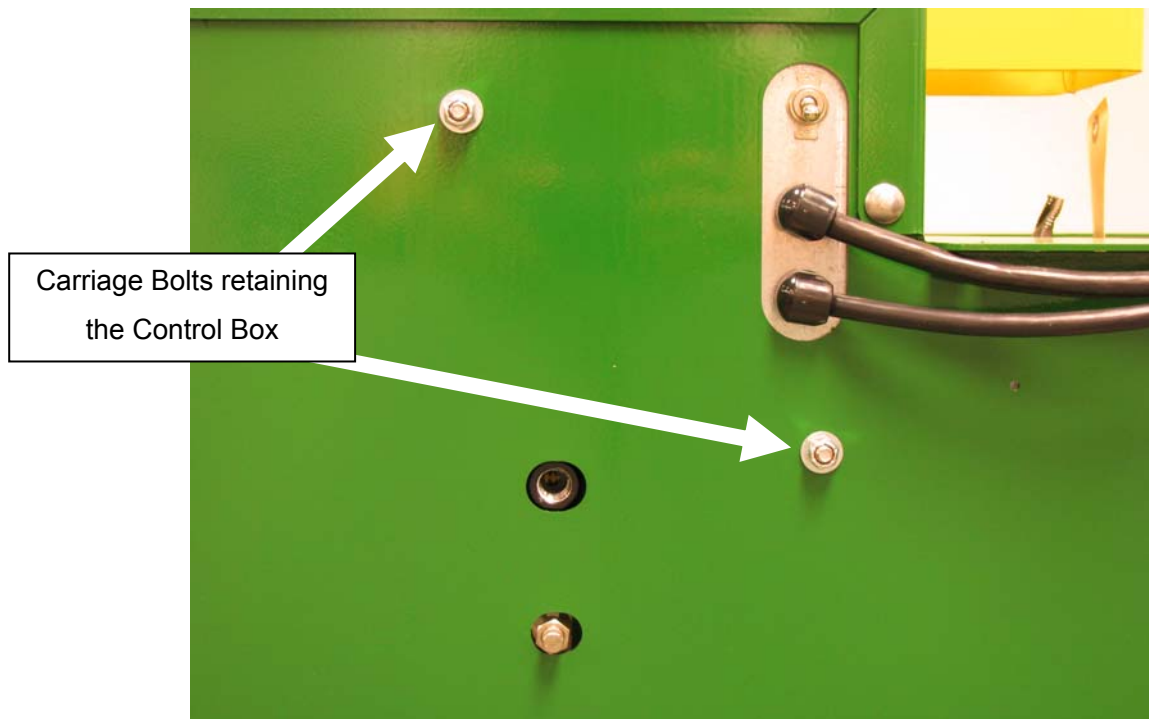

Fig 30
3. Remove the two carriage bolts that hold the Control Box to the machine and pull the box partially out the rear door. See Fig 30.